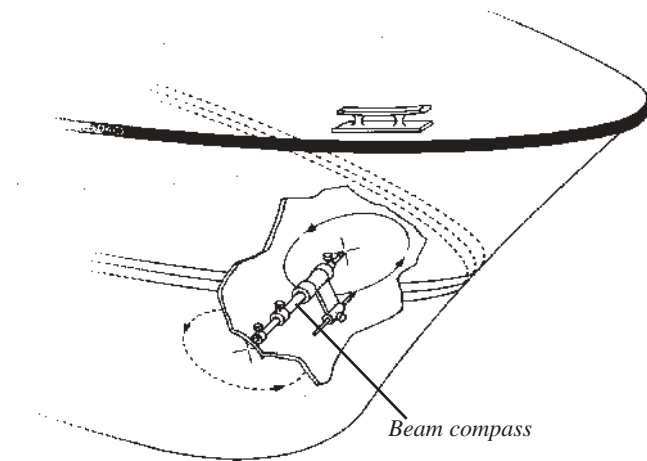

Fig.1
3. Draw the picture of the entire tunnel hole on the hull interior (fig.1) to see exactly where the tunnel is going to be positioned. This is important to find out the space that will be left under the tunnel and also that the bow thruster gets enough space vertically.
4. When the tunnel position has been measured the installation can start. Drill one hole  $\varnothing$  25mm on each side of the hull where the drawing tool's compass tips show. See fig. 1 & 6. Guide the tool gauge, from the outside, through the hull and cut the tunnel hole using the installation cutter. See fig. 6.